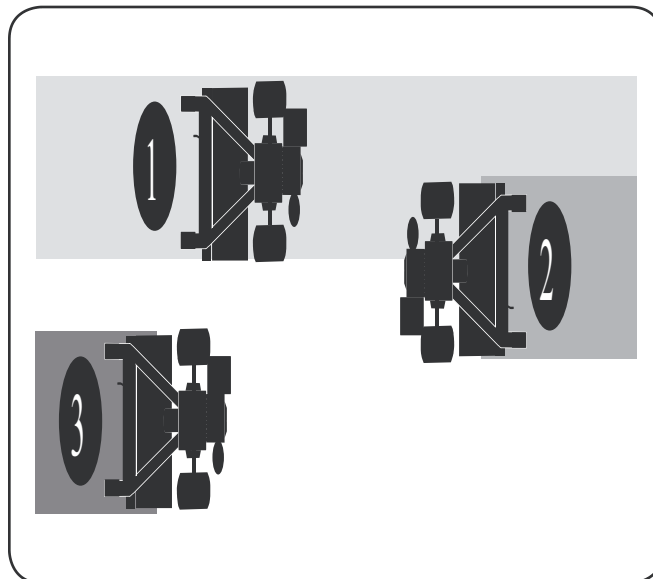

Figure 5-7
- If the garden size will not permit lengthwise and then crosswise tilling, then overlap the first passes by one-half a tiller width, followed by successive passes at one-quarter width. See Fig. 5-7.